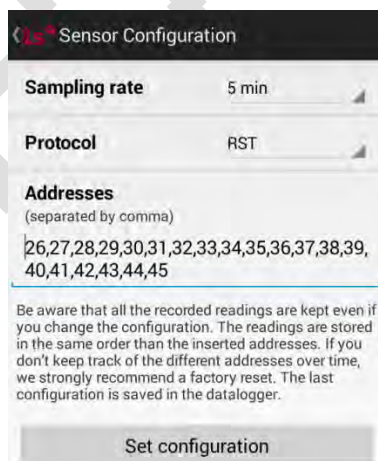

Figure 8: Sensor configuration options of LS-G6-DIG-2ch.
- DIG datalogger (Figure 8): sampling rate, communication protocol with sensors (from given options), bus addresses of the sensors (if connected through RS485 by digital bus). Be aware that all the readings are kept according the bus addresses introduced. Therefore, the number of columns of data will fit with the records indicated by the inserted addresses, and not with the real number of sensors connected. If you don't keep track of the different addresses over time, we strongly recommend a factory reset. The last configuration is saved in the datalogger.